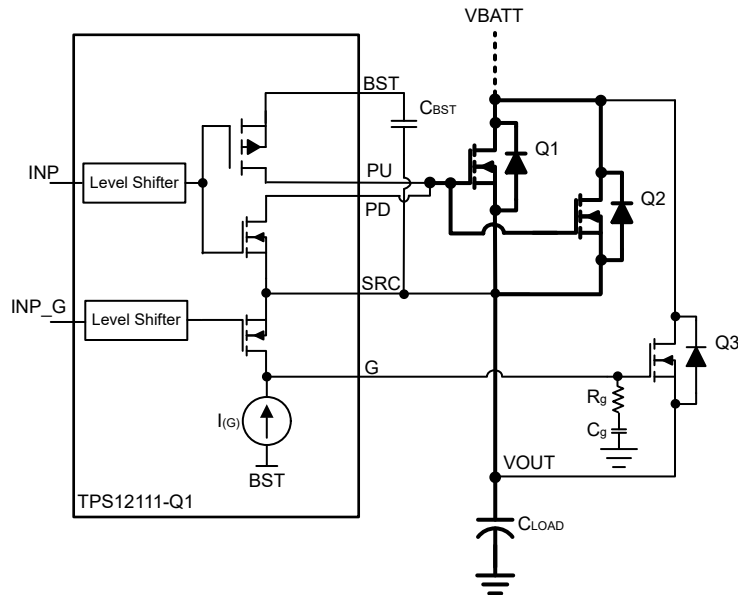

图 8-7. Capacitor Charging Using Gate Slew Rate Control of Precharge FET
The TPS1211-Q1 integrates precharge gate driver (G) with a dedicated control input (INP_G). This feature can be used to drive a separate FET that can be used to precharge the capacitive load. 图 8-7 shows the precharge FET implementation for capacitive load charging using TPS1211-Q1. An external capacitor C_g reduces the gate turn-ON slew rate and controls the inrush current.